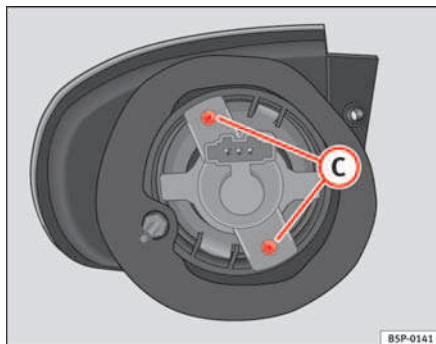

Fig. 183 Indicator lights
- Unscrew the bolts ⇒ page 248, fig. 183 **C** from the lamp holder and pull on this.
- Unscrew the bolts ⇒ fig. 183 **C** from the lamp holder and pull on this.